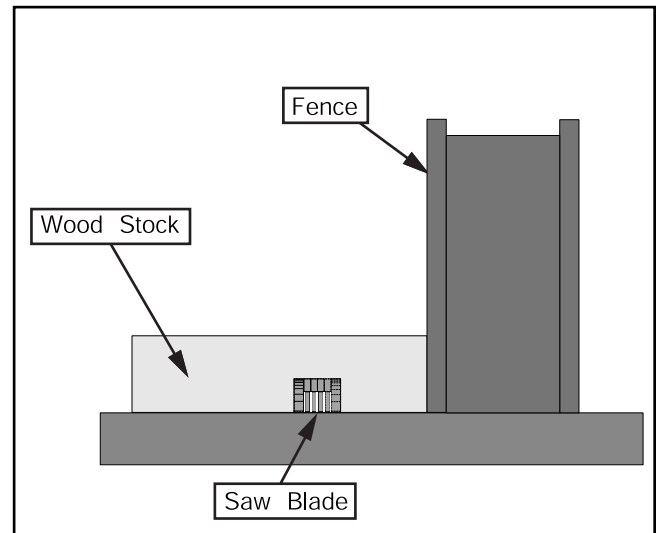

Figure 52. Single-blade dado cut.
6. If dadoing along the long length of your workpiece, adjust the distance between the fence and the inside edge of the blade to suit your needs as shown in Figure 52.